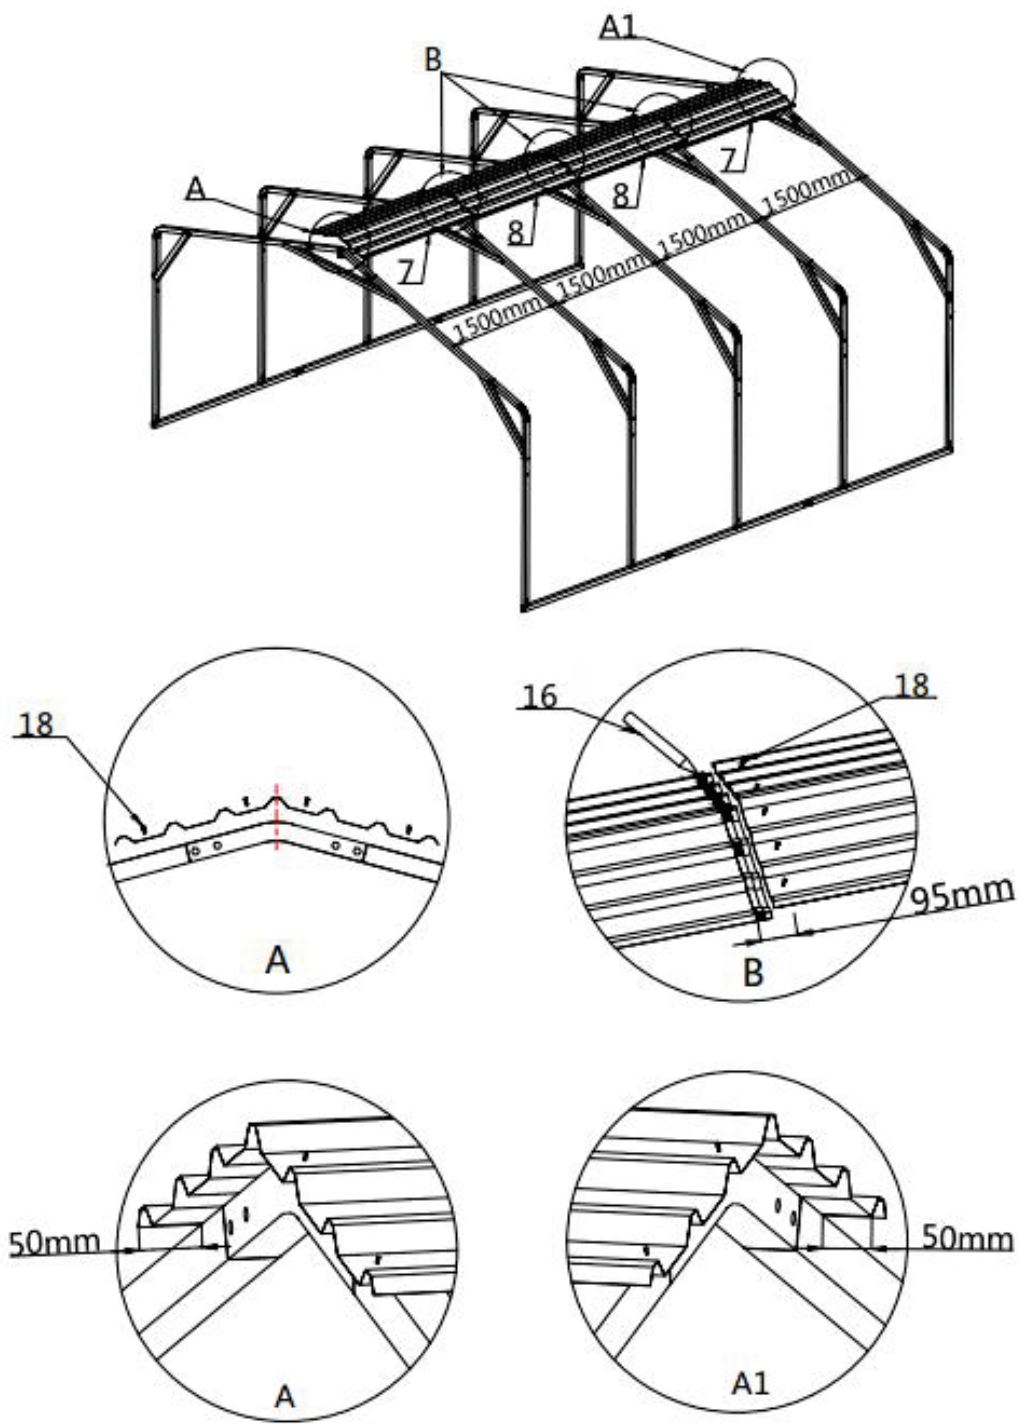

Figure 7
- Before installation, ensure that the distance between centers of each collapse is 1500mm. Install the first row of colored steel tiles from the top end. The center of the colored steel tiles must be aligned with the midpoint of the top arch tube (you can mark the center of the top arch tube with a line). The extension size of both ends is 50mm. The size of the middle cross overlap position is 95mm, and the cross overlap position needs to be coated with waterproof silicon sealant. All color steel tiles are fixed on the truss with (#18) self tapping screws. (refer to Figure 7)
- (18) Metal sheet (#7)